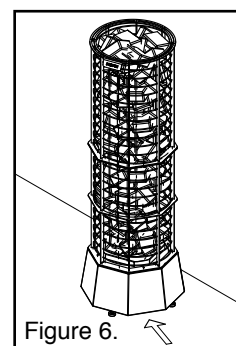

Figure 6.
- The heater's control switch is located in the front at the lower part of the heater (see Fig. 6).